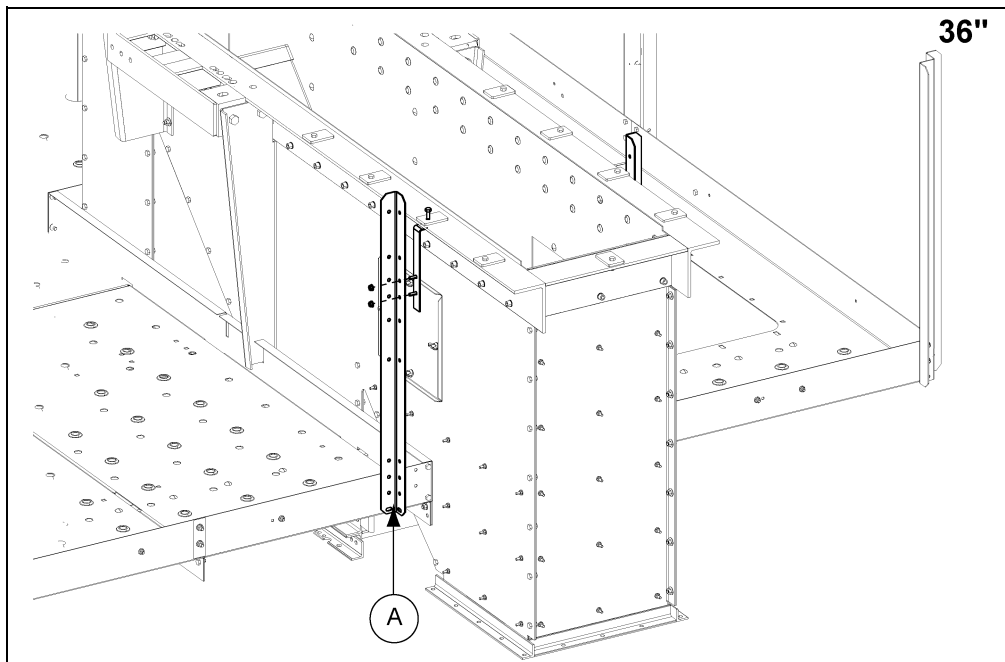

Figure 10H
2. Attach head side post (HP1648HP) (A) to lower head using 5/16" x 3/4" bolts and nuts. (See Figure 10H.)